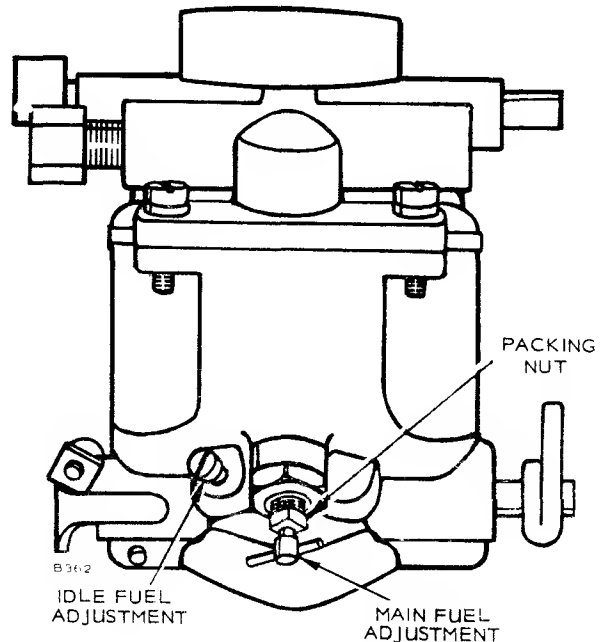

FIGURE 11. CARBURETOR FUEL MIXTURE ADJUSTMENTS
The BF generator set has a carburetor with two fuel mixture adjustments, an idle mixture which affects operation mainly at no load and a main adjustment which affects mixture for maximum load (Figure 11). If your generator set has a "hunting" (sudden surges and drops in speed) condition at no load or full load and cannot be corrected by carburetor adjustments, check governor linkage and adjustment (see *Governor Adjustments*). A hunting condition at no load can often be corrected by an idle fuel adjustment.
2. Loosen packing nut (Figure 11) and with main adjustment needle two full turns off its seat, slowly turn in (clockwise) until engine loses speed.